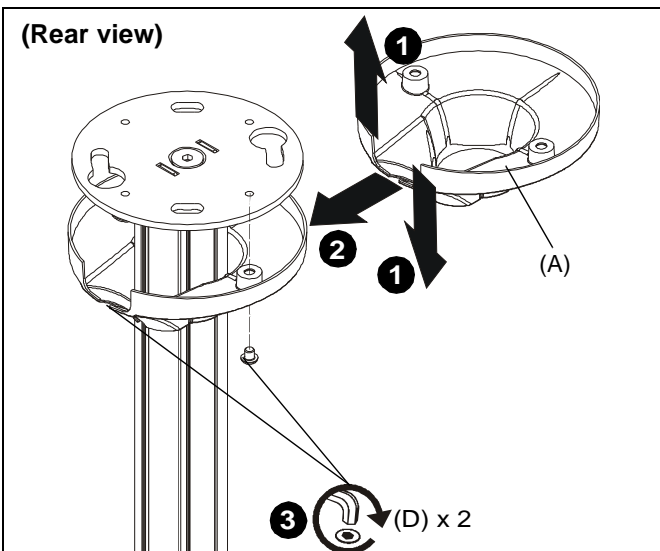

Figure 16
1. Maneuver ceiling plate cover (A) so that it is able to wrap around extension column. (See Figure 16)
2. Wrap ceiling plate cover (A) around extension column. (See Figure 16)
3. Use two M6 x 6mm button head cap screws (D) to secure ceiling plate cover (A) to CPA116 plate (A). (See Figure 16)